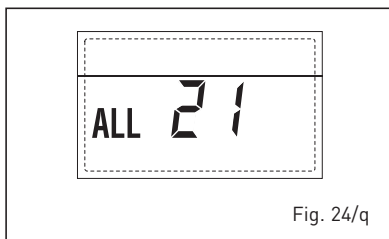

Fig. 24/q
- SAFETY THERMOSTAT INTERVENTION SECOND MIXED ZONE "ALL 22" (fig. 24/r)